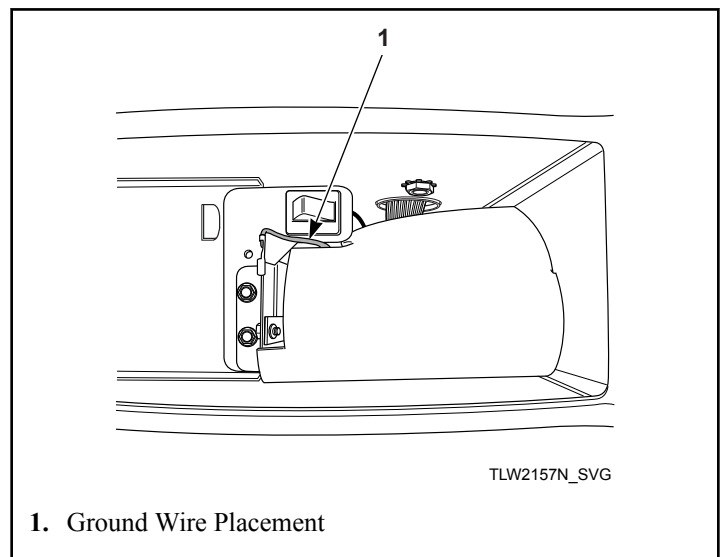

Figure 39
7. Before installing coin slide and extension, make sure ground wire is tucked under control shield to provide clearance for coin slide. Refer to *Figure 39*.